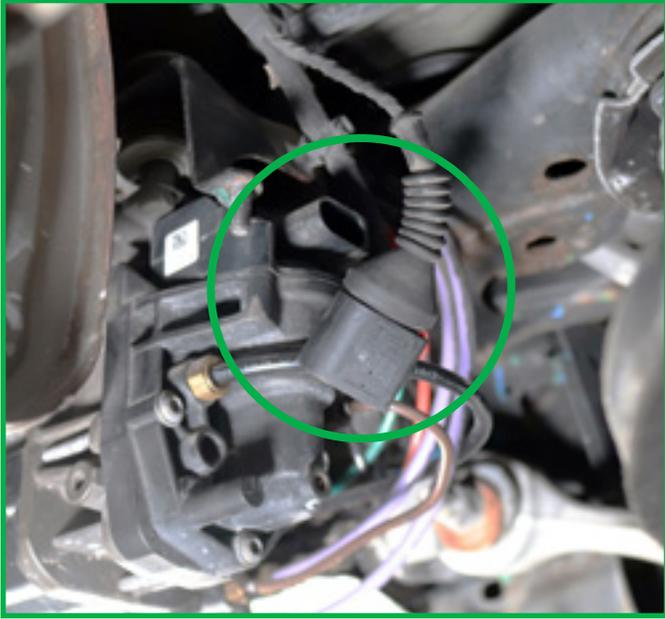

FIGURE 4
4. Disconnect the two (2) electrical connectors. Find the second connector toward the top of the compressor on the side facing the front of the vehicle. (Figures 4, 5)